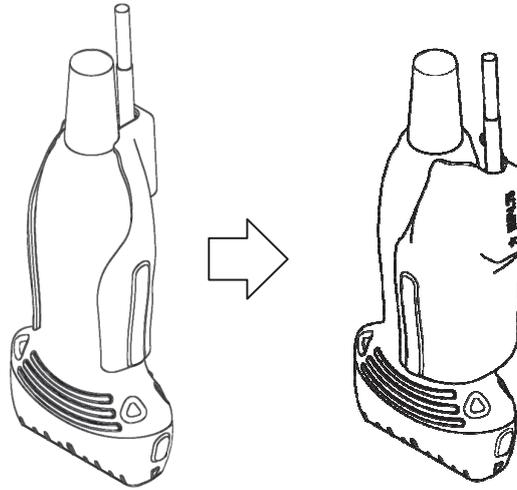

Fig. 13 How to release the Magnetic sensor attachment from the probe
- 1) Turn around the magnetic sensor attachment and remove it from the probe as shown in Fig. 13.